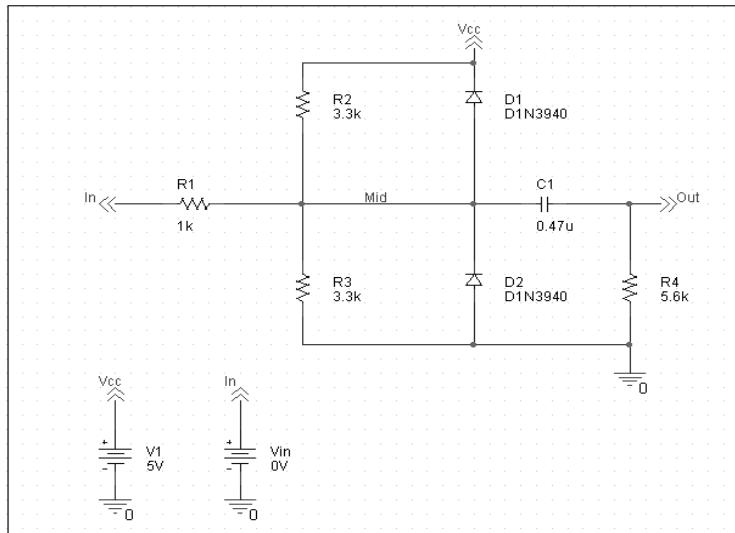

Figure 2 Diode clipper circuit.
This section describes how to use OrCAD Capture to create the simple diode clipper circuit shown in Figure 2.
- 6 Move the pointer to the correct position on the schematic page (see Figure 2) and click to place the first part.
- You will change part names and values that do not match those shown in Figure 2 later in this section.
- 3 Follow similar steps as described for the diodes to place the parts listed below, according to Figure 2. The part names you need to type in the Part name text box of the Place Part dialog box are shown in parentheses:
- resistors (R)
- capacitor (C)
- 6 Place the off-page connector parts according to Figure 2.
- 7 To place the ground parts (0), click the GND button on the tool palette.
- 9 Place the ground parts according to Figure 2.
- 6 Continue connecting parts until the circuit is wired as shown in Figure 2 on page 2-56.
Label the off-page connectors as shown in Figure 2 on page 2-56.
- 5 Continue naming the remaining parts until your schematic looks like Figure 2 on page 2-56.
- 4 Continue changing the Part Value properties of the parts until all the parts are defined as in Figure 2 on page 2-56.
Your schematic page should now have the same parts, wiring, labels, and properties as Figure 2 on page 2-56.